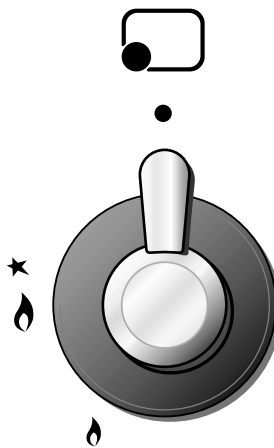

Fig. 4.3
Each hob burner is controlled by a separate gas tap operated by a control knob (fig. 4.3) which has 3 positions marked on the knob, these are:
- 1) Lightly press and turn the knob anti-clockwise, and make the symbol  printed on the knob to match with the indicator on the control panel (fig. 4.3).